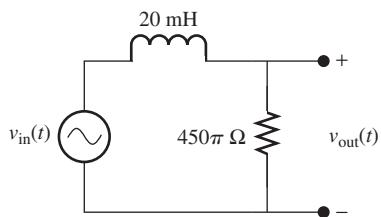

FIGURE P7.12 Circuit for Problem 7.12.
- 7.12** (A) Find the output, $v_{out}(t)$, of the filter in Figure P7.12, given the input: